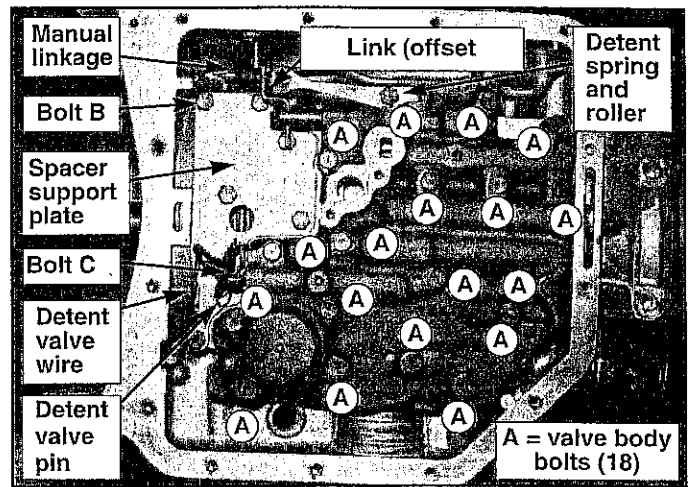

FIGURE 3
STEP 2. Observe the location of the following (See Fig. 3): Manual linkage (shifter) detent spring and roller, S-link or offset link, detent valve wire, detent valve pin and spacer support plate.
STEP 3. Remove detent valve pin. (See Fig. 3) Remove lever